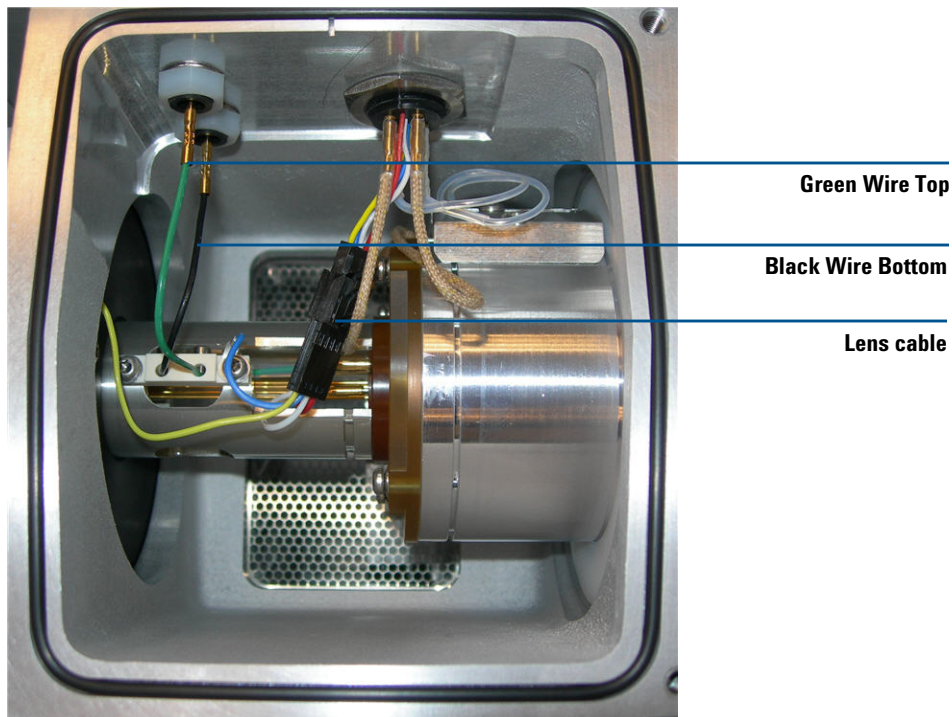

Figure 51 Optics assembly
- 6 Use your finger to push on the skimmer spacer to get the ion optics to pop out of the instrument. Be careful to catch it so it doesn't fall on the floor. See Figure 51.